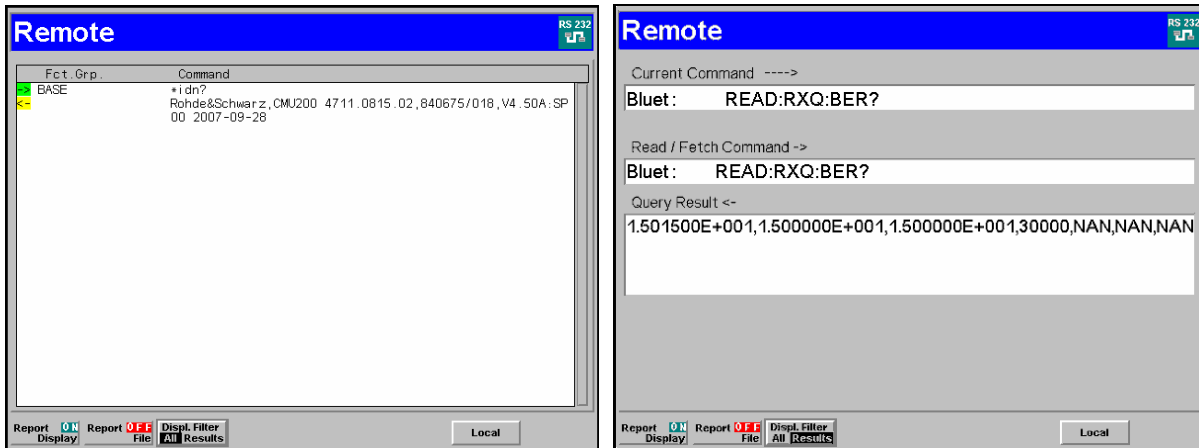

Fig. 5-1 Remote screen
- All* The remote screen shows all remote control commands that are exchanged between the controller program and the R&S® CBT (see example on the left-hand side of Fig. 5-1 above).
- Results* The commands are filtered: The remote screen only shows the current command (with a switched icon to distinguish several repeated commands) and the last `READ...?` or `FETCh...?` query sent to the R&S CMU, together with the received results. Compared to *Report Mode: All*, the font size is enlarged, and the secondary address string is abbreviated to 5 characters (e.g. `WCDMA` for `WCDMAUEFDD_NSig`). (see example on the right-hand side of Fig. 5-1 above). This report mode is suited for a rough observation of the command sequence, with an emphasis of the received results.